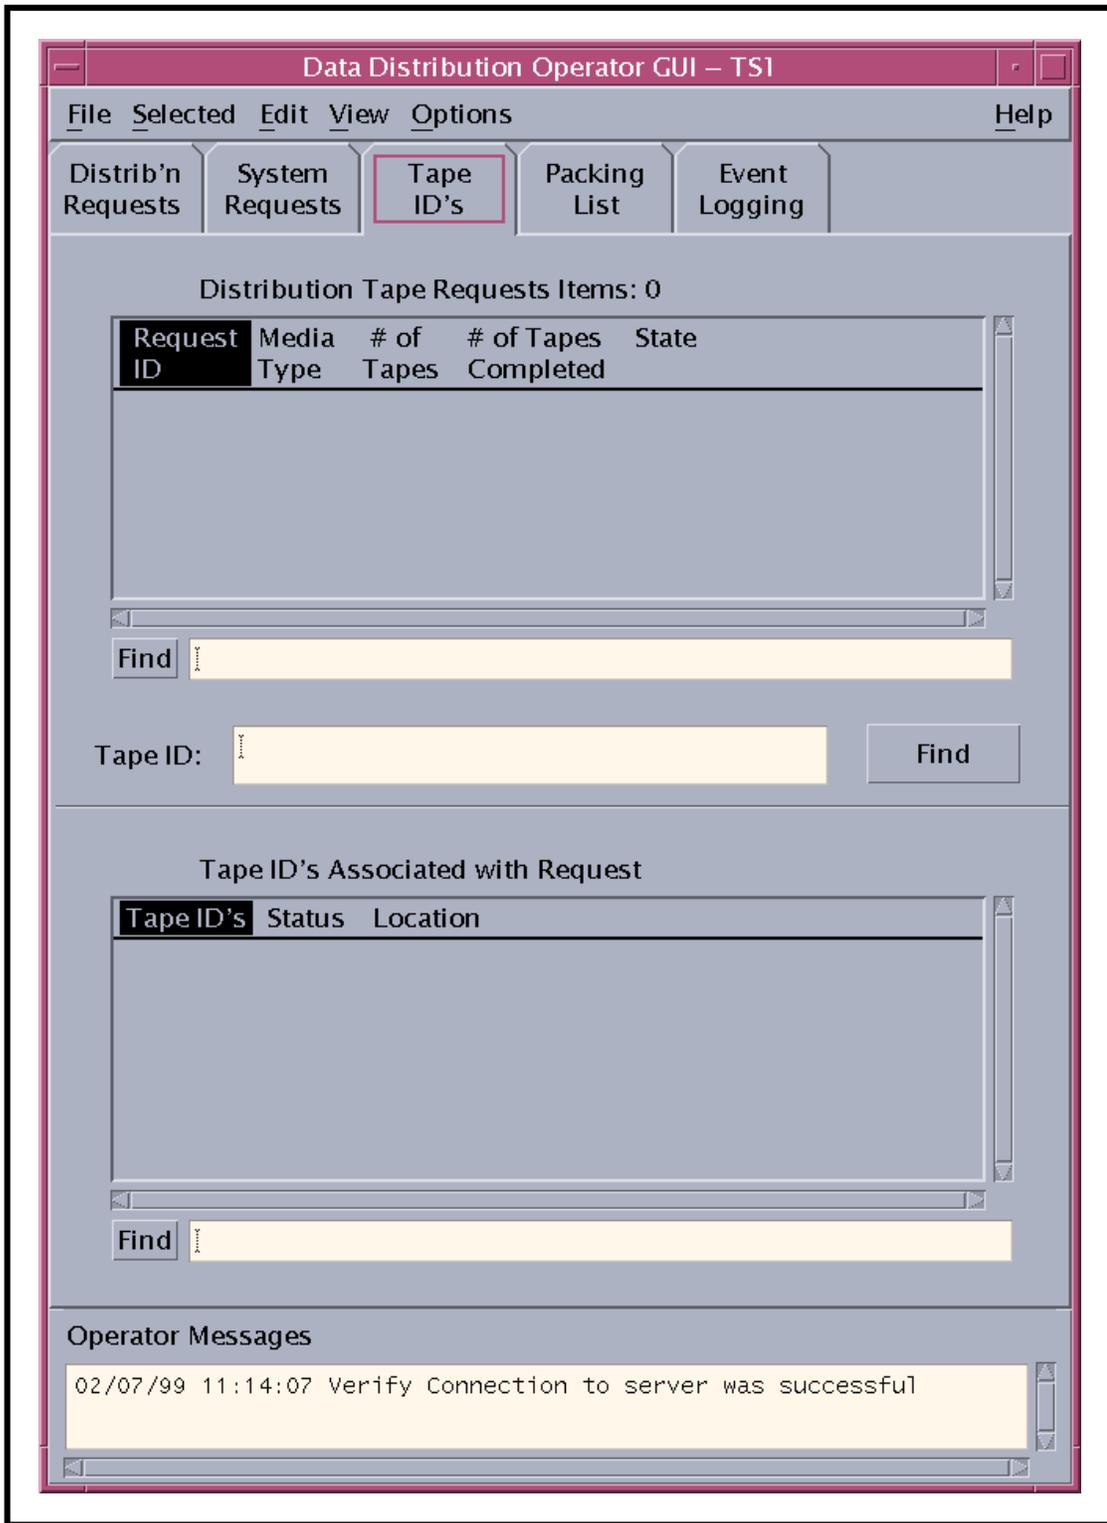

Figure 20. Tape ID's Tab (Data Distribution Operator GUI)
The **Tape ID's** tab (Figure 20) of the **Data Distribution Operator GUI** allows the DAAC Ingest/Distribution Technician to determine which tape(s) on which stacker(s) contain(s) the data specified in a particular data distribution request. There are two windows on the tab, the **Distribution Tape Requests Items** window and the **Tape ID's Associated with Request** window.
- The **Data Distribution Operator GUI Tape ID’s** tab (Figure 20) is displayed.